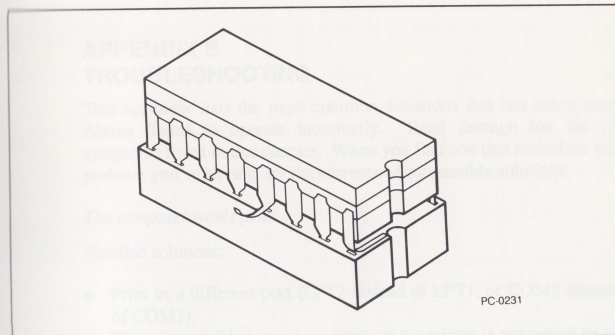

Figure A-5 *Bent pins*
- Carefully examine the chip's pins. Look for any pins that are bent under or out. (See Figure A-5.) If you find bent pins, remove the chip, gently straighten them, and go back to step 2.
4. Carefully examine the chip's pins. Look for any pins that are bent under or out. (See Figure A-5.) If you find bent pins, remove the chip, gently straighten them, and go back to step 1.